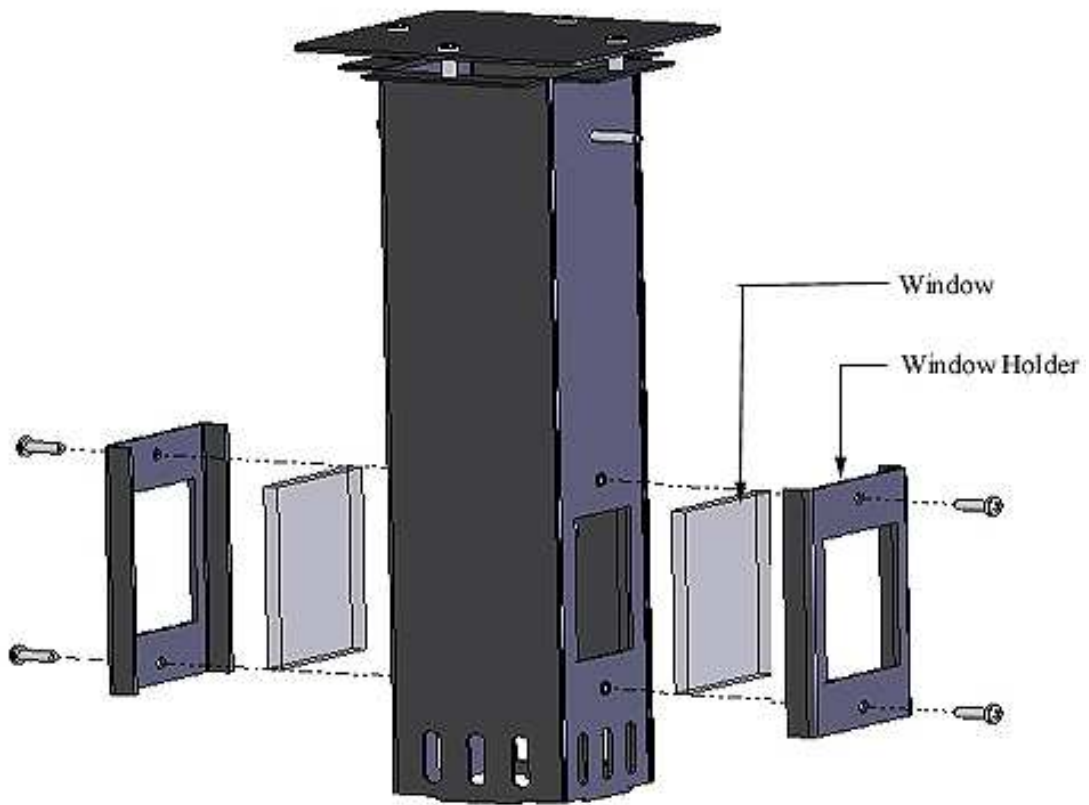

Figure 6.5
- Remove the Chimney Windows from the Inner Chimney by undoing the screws on the Window Holders. See Figure 6.5.